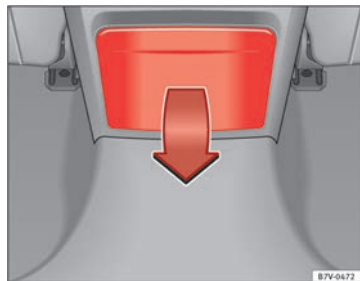

Fig. 118 Centre console, rear section: folding out the drink holder
- To *open*, move the drink holder downwards in the direction of the arrow ⇒ Fig. 118.